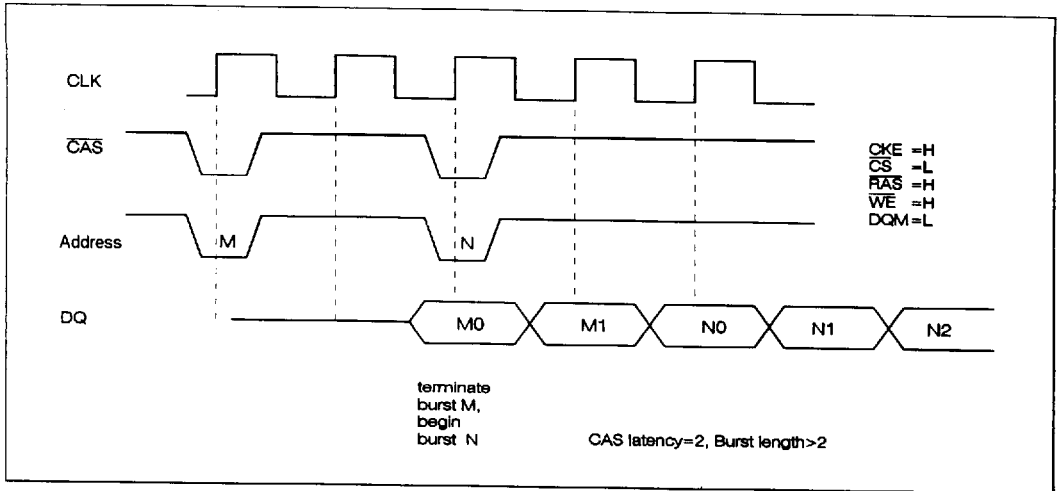

Figure 6. Timing of read initiation with read burst in progress.
2. Initiate another read command (with or without Auto Precharge selected) before the end of the burst and begin a new read burst starting from another column address. The burst in progress is terminated and the first address of the new burst is read to the output after a number of clock cycles defined by the \overline{CAS} latency. See Figure 6 for details.